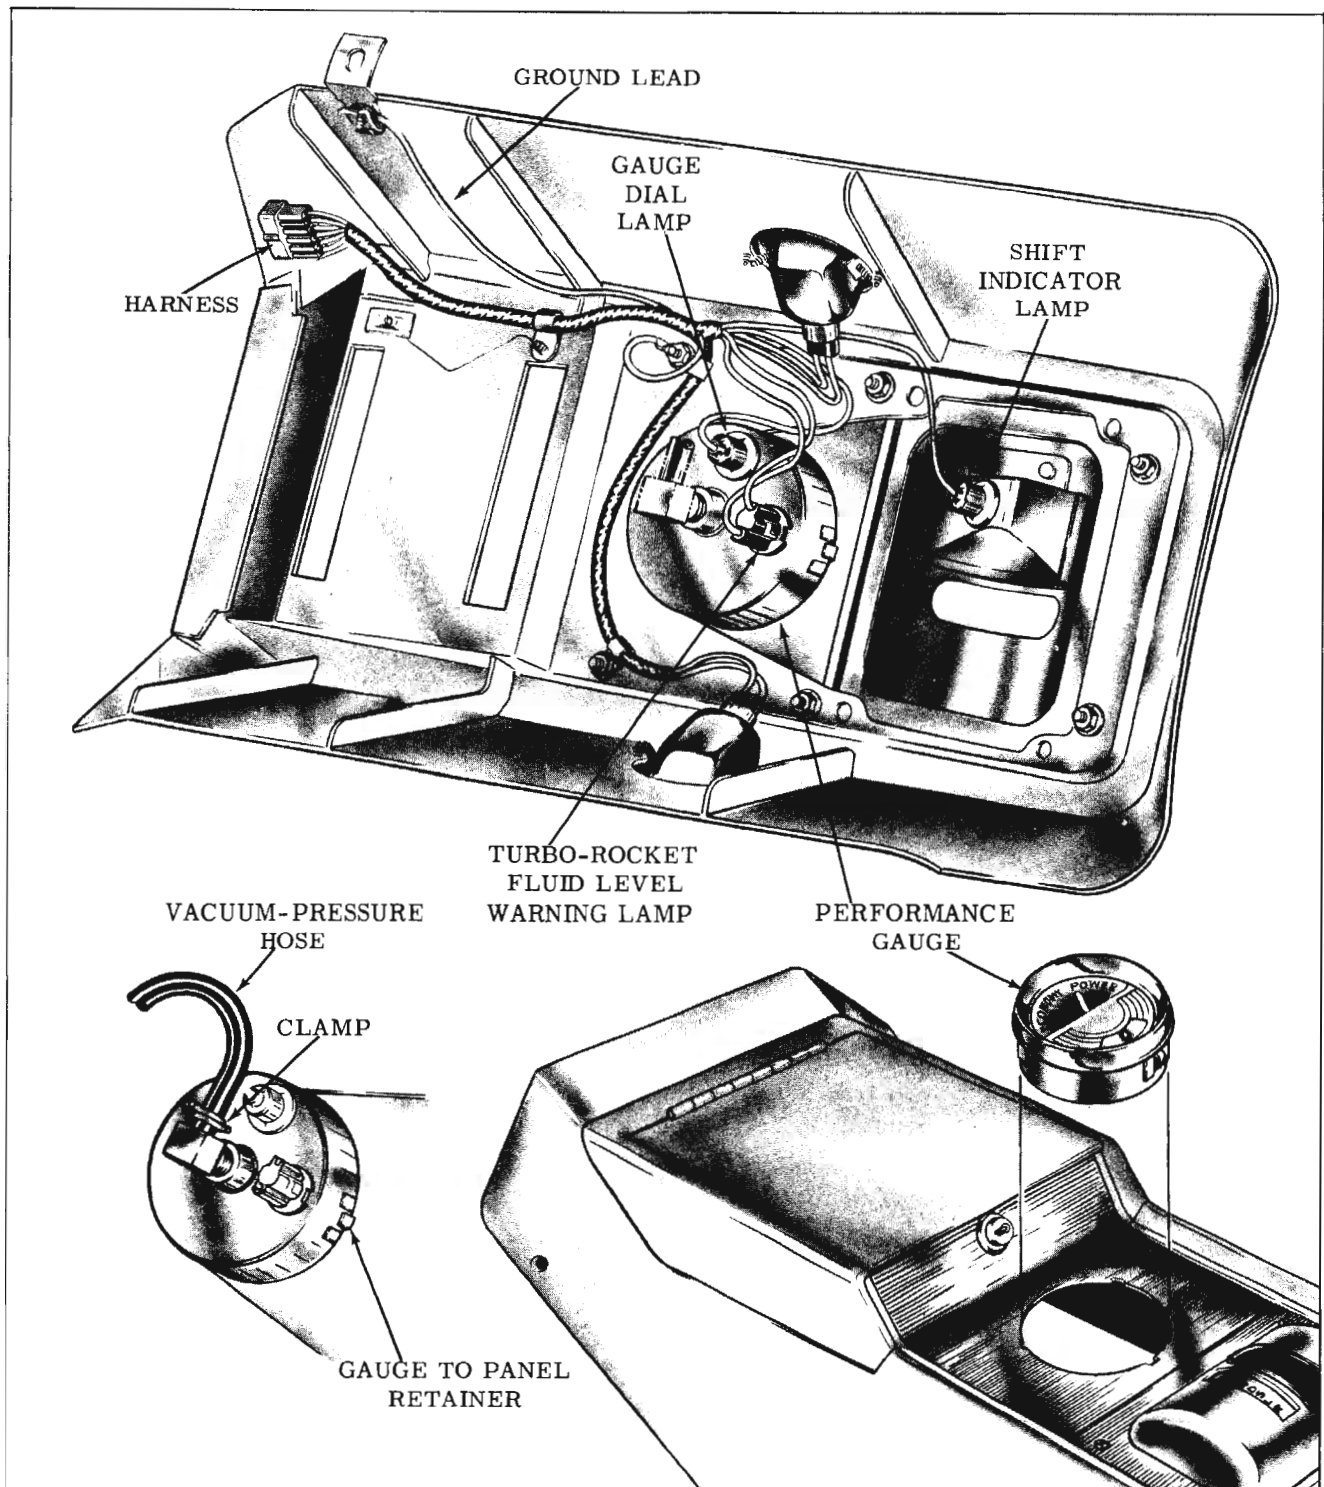

Fig. 13-114 Performance Gauge Removal
3. With the shift indicator cover removed, remove the gauge dial lamp and the turbo-rocket fluid level warning lamp from respective sockets in gauge body. Disconnect the performance gauge vacuum-pressure hose. (Fig. 13-114)
4. Depress gauge to panel retainer and push gauge up out of the console panel. (Fig. 13-114)